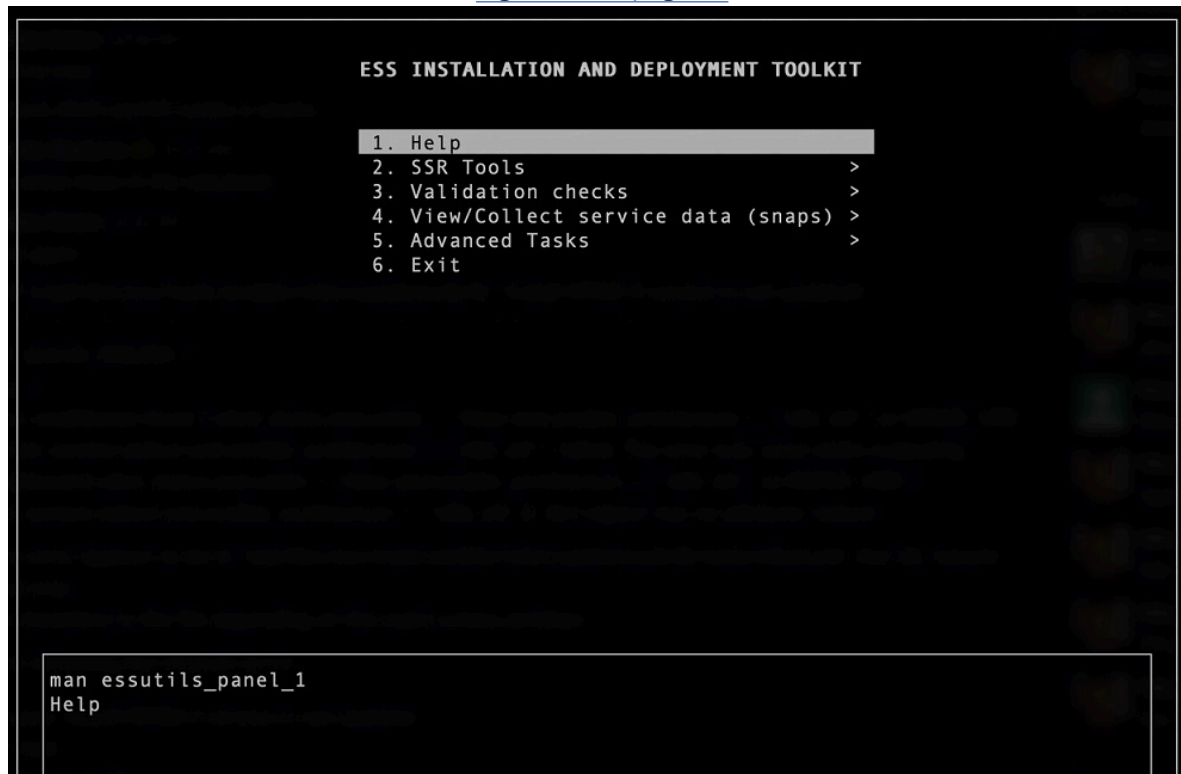

Figure 32. **essutils** tool
- i. Select the SSR tools menu as shown in Figure 32 on page 59.